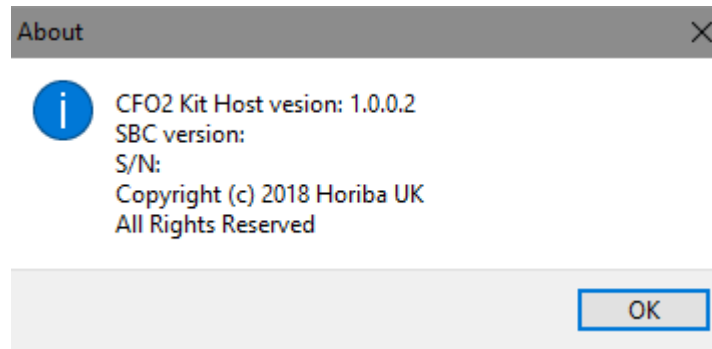

**Figure 1 – Main Screen**
**See figure 1 on next page for overview of software layout**